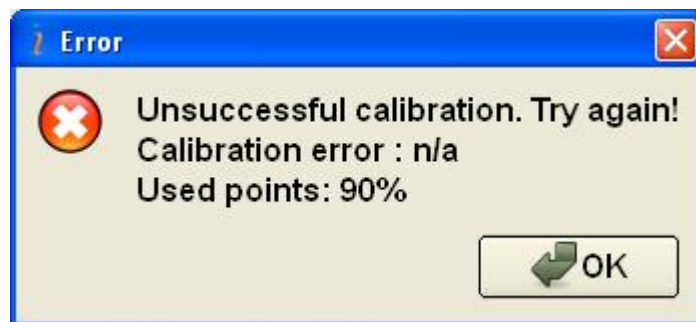

Fig. 10.12
Step 11. If the calibration is unsuccessful, then window Fig. 10.12 appears with a caption «Unsuccessful calibration. Try again!».